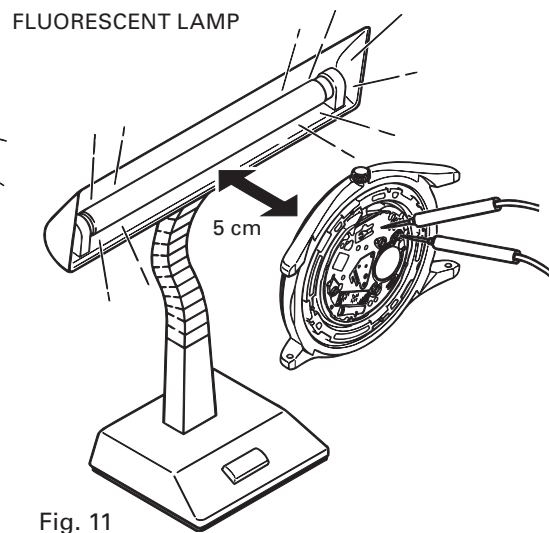

Fig. 11
- 3) Measure the voltage again while keeping the watch exposed to the light (Fig. 11.)